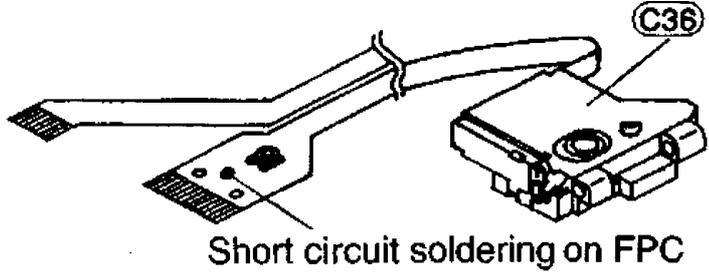

Fig.1
- A. How to dismount the Pickup (C36): [Refer to Figures 1, 2, 3 and 4]
- B. How to dismount the Rotary Motor ASSY (C74): [Refer to Figures 1,2,3,4, and 5]
- C. How to dismount the Feed Motor (C42) [Refer to Figures 1, 2, 3 and 4]:
- D. How to dismount the Spindle Motor ASSY (C24) [Refer to Figures 1, 2, 3, 4 and 6]:
- E. How to dismount the Elevator Motor ASSY (C11) [Refer to Figures 1, 2 and 7]: